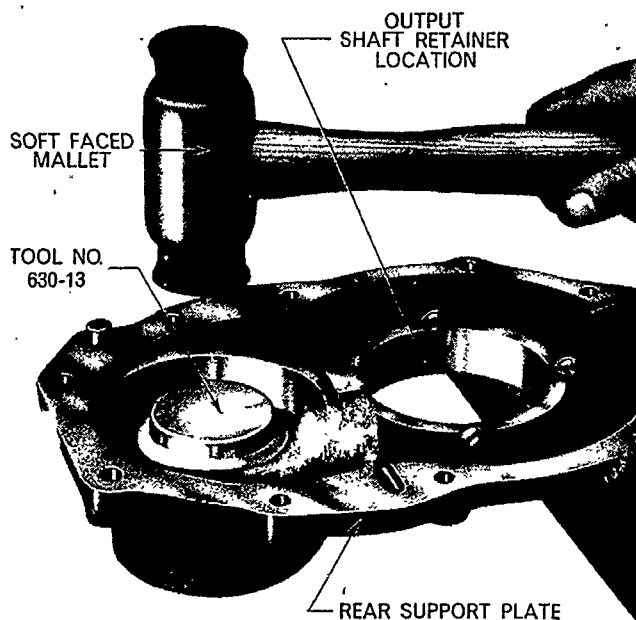

Figure 32
3. Install a new P.T.O. countershaft seal to the rear support plate using Tool No. 630-13 (reversed) and a soft faced mallet, Figure 32.